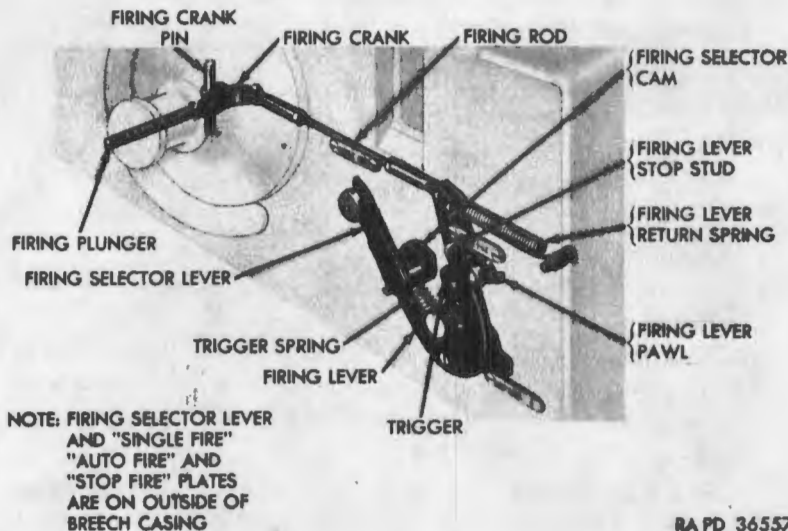

Figure 349. Breech casing firing mechanism.
- (7) The firing selector lever (fig. 349) prevents the gun from being fired, allows single rounds to be fired, or permits automatic firing. The firing plunger, which protrudes through the trunnion, is the means of contact between the firing solenoid or foot firing pedal, and the parts of the firing mechanism housed within the breech casing.
- (1) The breech casing firing mechanism (fig. 349) consists of parts of the firing mechanism which are mounted on the left wall and floor of the left casing and the right wall and floor of right casing. It includes the firing selector lever and its assembly. The breech casing firing mechanism converts the movement of the firing plunger in the
- (2) The firing lever (fig. 349) is pivoted on a bracket attached to the floor of the breech casing. Its longer upper arm is pulled forward by the firing rod and crank when the firing plunger is pressed inwardly by the action of depressing the firing mechanism pedal or actuating the firing solenoids. It is returned to its normal position by the firing lever return spring.
- (3) The firing lever pawl (fig. 349) is pivoted between lugs on the rear of the longer arm of the firing lever. The trigger is located in the "U" of the firing lever and mounted on a pin in the wall of the breech casing. When the firing lever is pulled forward, the firing lever pawl contacts the trigger which rotates on its axis pin. The trigger rotates the rammer control spindle arm of the automatic loader to release the rammer shoe and fire the gun. When rotation has stopped, the trigger is returned to normal position against its stop on the firing lever by the trigger spring.
- (4) The firing lever pawl (fig. 349) is tripped by the firing lever stop stud to release the trigger and produce single action. Rotation of the trigger is controlled by the position of the firing selector cam.
- (7) Rotate firing plunger (fig. 349) and note any binding or other restricted action. The plunger should rotate freely and protrude $1\frac{1}{2}$ -inches.